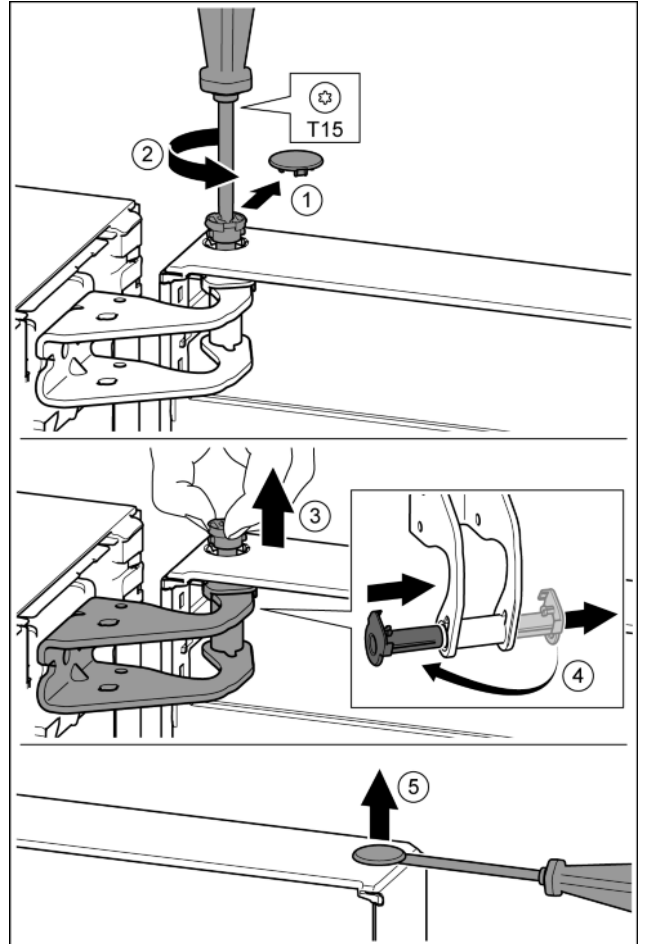

Fig. 10
- ▶ Carefully remove the protective cover. Fig. 10 (1)
- ▶ Undo the bolt a little with a T15 screwdriver. Fig. 10 (2)
- ▶ Hold the door and remove the bolts with your fingers. Fig. 10 (3)
- ▶ Pull the bearing bush out of the guide. Insert from the other side and click into place. Fig. 10 (4)
- ▶ Carefully lift the plugs out of the door bearing bush with a slotted screwdriver and remove. Fig. 10 (5)